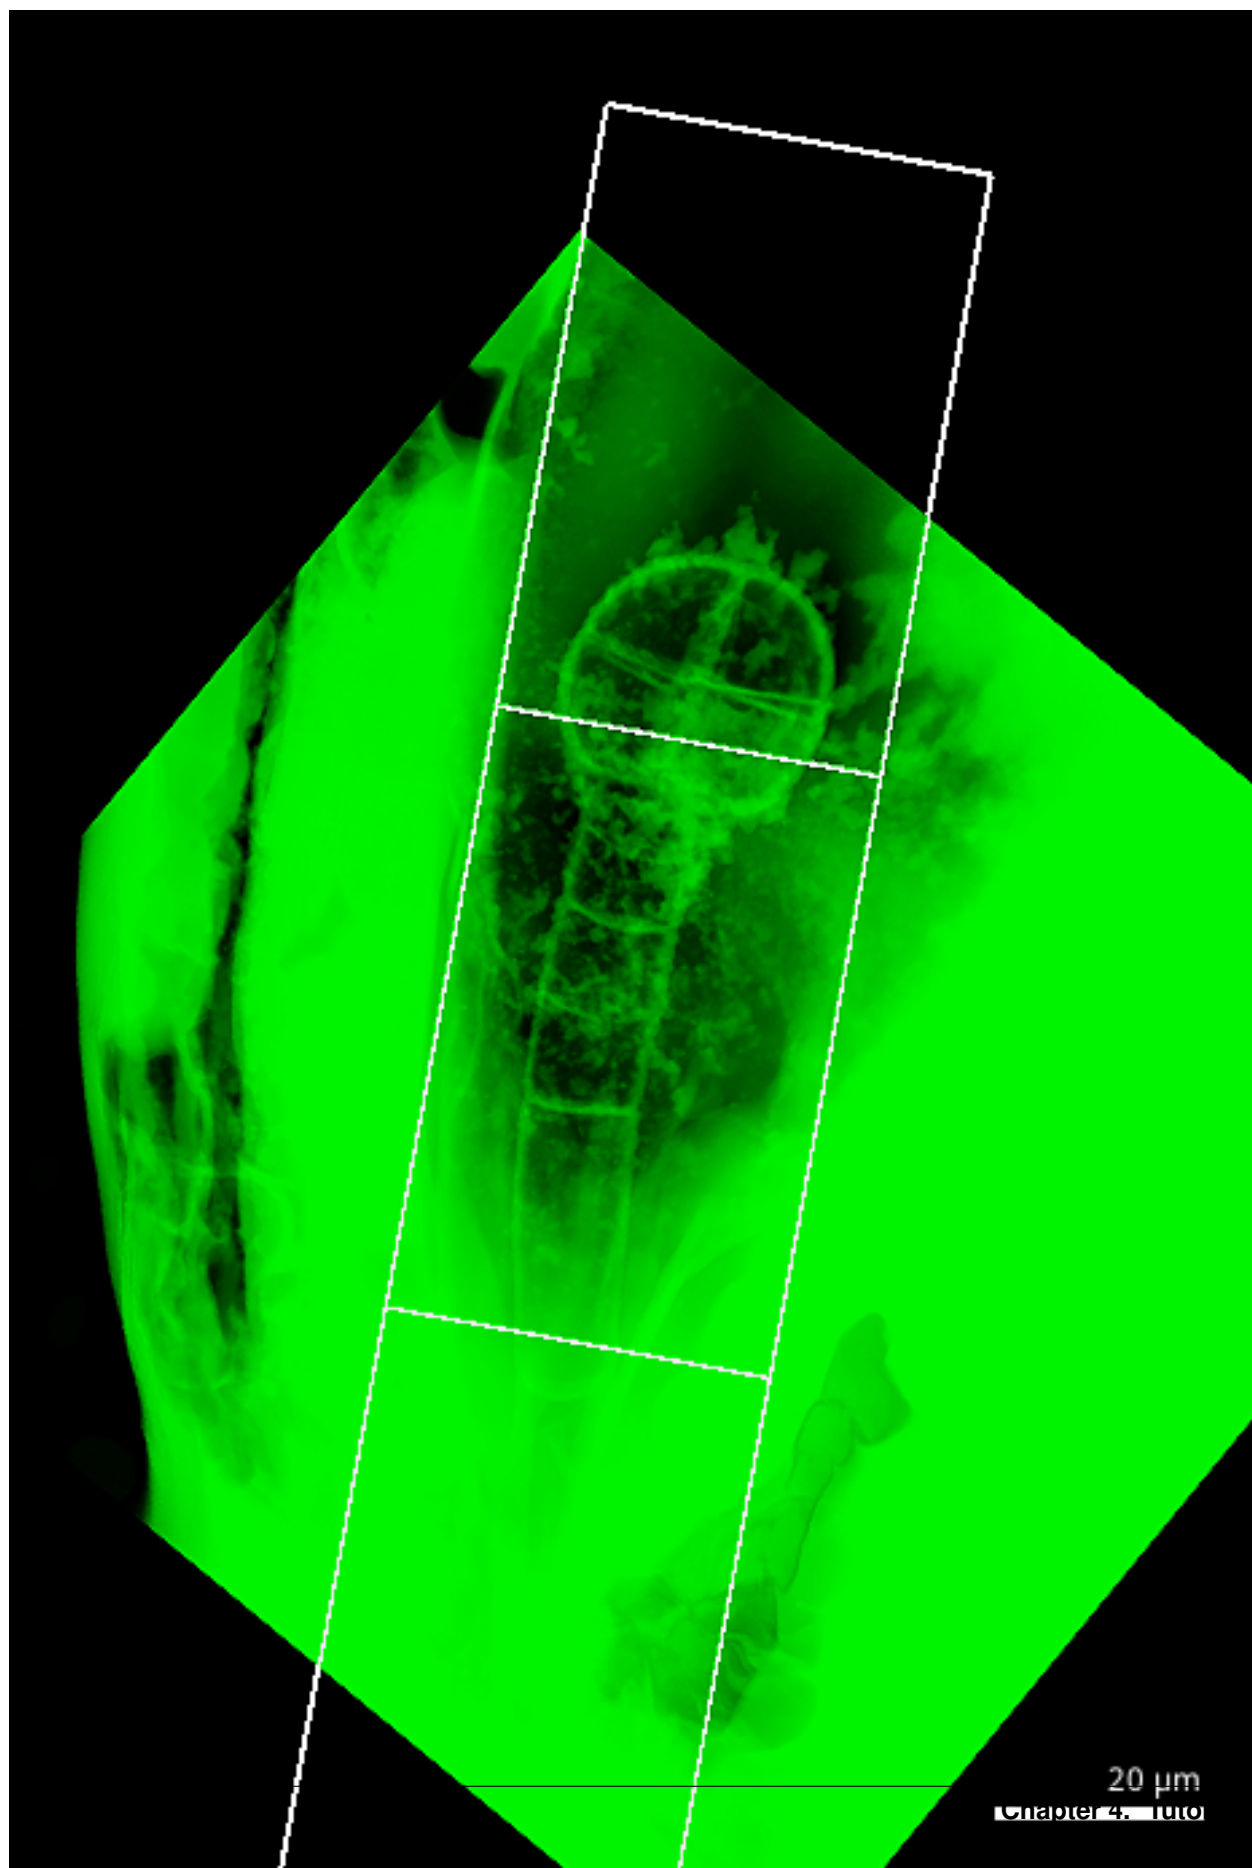

Fig. 15: Place the clipping planes to include just the embryo itself.
4. Adjusting the thickness of the slice, and moving the clipping plane with the control-key pressed, place the clipping planes to include the embryo (see Figure 15)